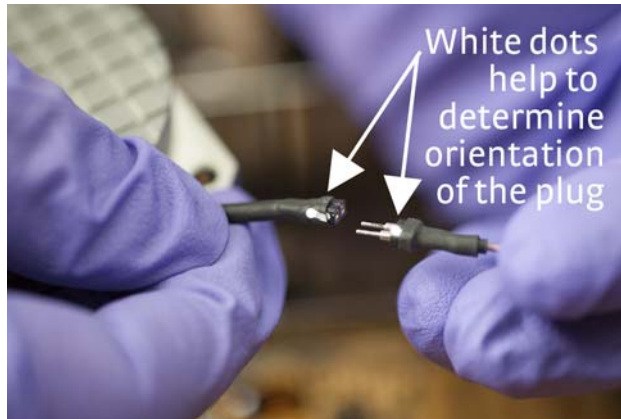

FIGURE 5-4 Connecting the FT-BNC or FT-triax cable to the HT sample stage receptacle—note the orientation of the electrical connector
- If you are using the HT sample stage in conjunction with the FT-BNC or FT-TRIAx, connect the 2-pin feedthrough cable plug next to the HT sample stage plug on the cable receptacle. Note the orientation of the white dot (FIGURE 5-4).